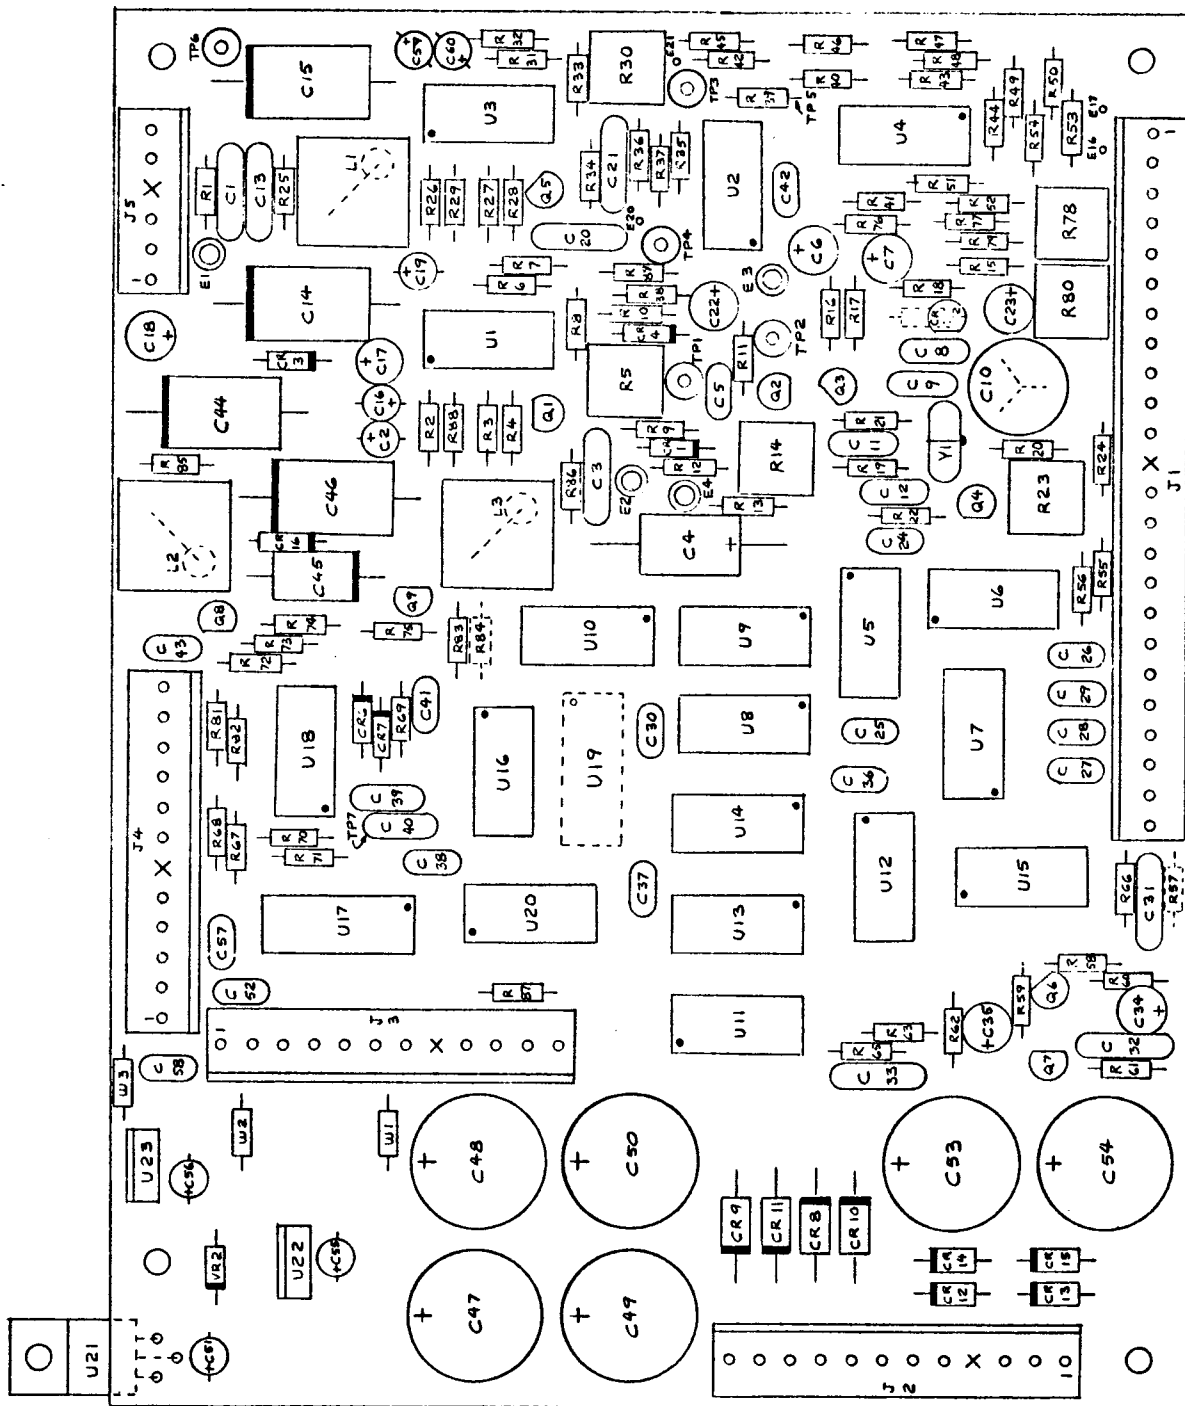

FIG. 3-3 A2 RECEIVER ASSEMBLY
3.2.2 Receiver Assembly (A2 Board, Figure 3-3)